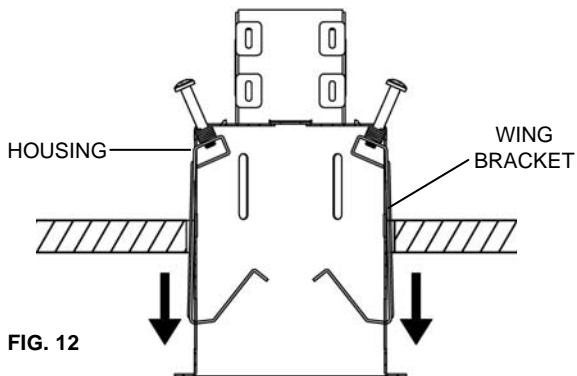

FIG. 12
5. Once both wing brackets clear the edge of the hole, slide the housing out of the hole, until the junction box is accessible. (Fig. 12)